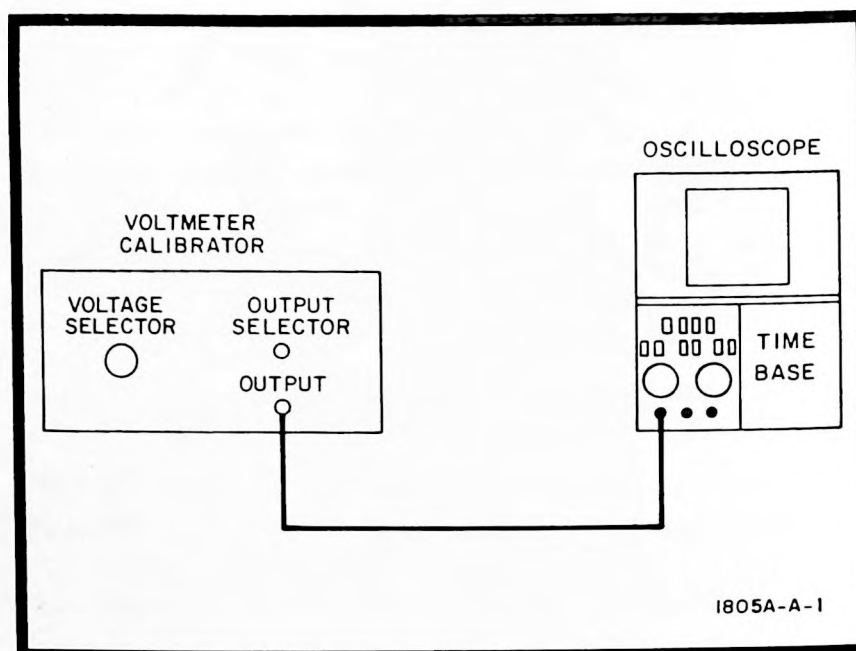

Figure 5-2. Deflection Factor Accuracy Test Setup
a. Connect equipment as shown in figure 5-2.